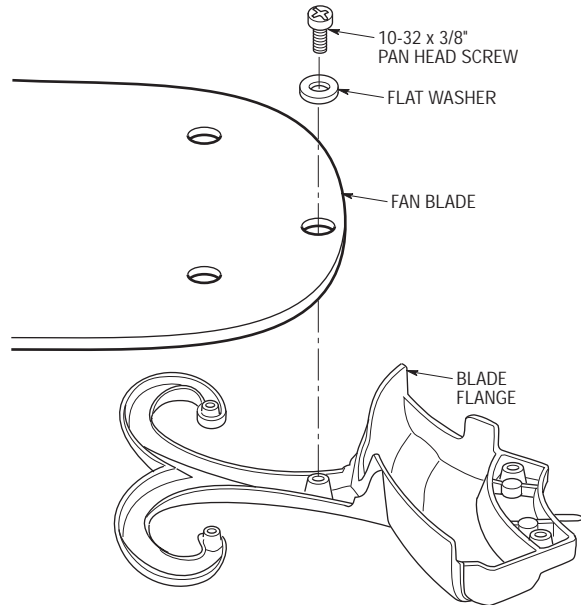

Figure 16A
- 27. Use three 10-32 x 3/8" pan head screws and flat washers (supplied) to secure the flange to the blade (ordered separately) (Figure 16A). Repeat for the four remaining blades.